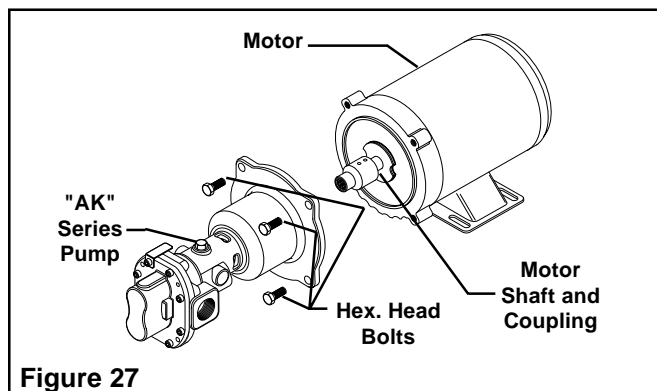

Figure 27
11. Place the Cover on the Gear Pump Body and secure it to the Gear Pump Body using the six Screws (See Figure 27).
13. Lubricate the splines of the Coupling with Never-Seez® equivalent lubricant (See Figure 27).
14. Slide the "AK" Series Pump Shaft into the Coupling (See Figure 27).
15. Using the four Hex. Head Bolts, secure the "AK" Series Pump to the Motor; then, alternately and evenly tighten the four Hex. Head Bolts (See Figure 27).